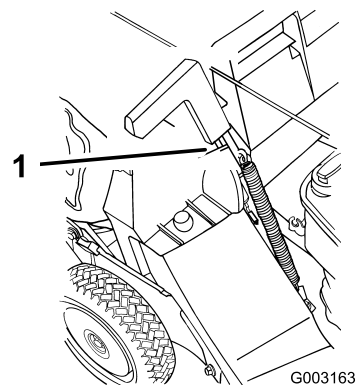

Figure 20
5. Pull the discharge-door handle forward until the pin clears the catch, and move the handle rearward until the pin locks in the bag notch (Figure 20).